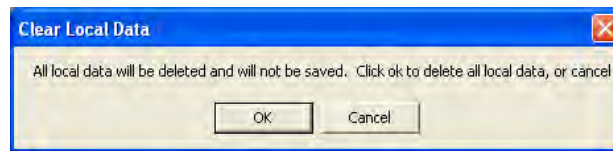

Figure 4-47: Clear Local Data Window
8. If the data was upsynced or if No was selected in step 6, the Clear Local Data window remains open, however the message has changed. See figure 4-47.